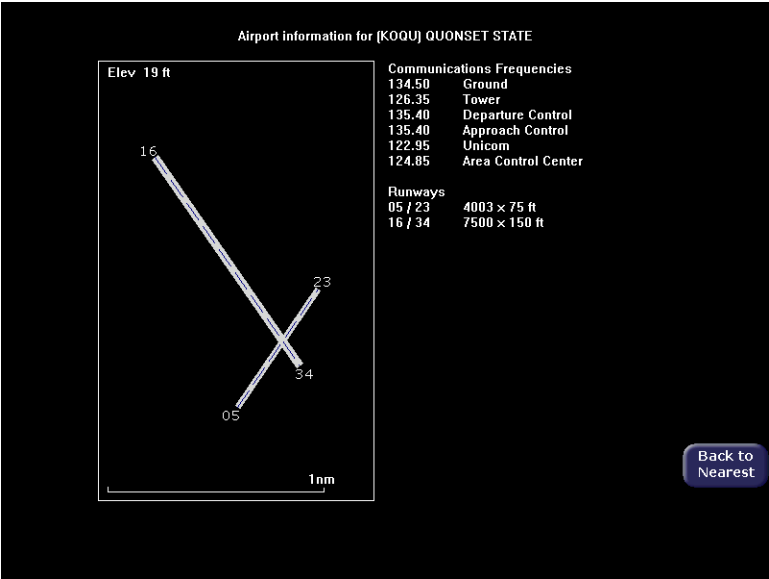

Figure 8.2 Airport Information Page
- 3) **Airport Info**—Provides quick access to airport information for the airport highlighted. *Airport Info* only appears when viewing the Airports Nearest to Position and Airports Nearest to Destination. Airport Info displays a page similar to Figure 8.2.
- 5) **FILTER**—Press to see all airport types (SHOW ALL) or only the airport types as defined on the Airport Filter Page (ON) (see Section 9.2, "Airport Filter Setup Page" on page 77). *Filter* is only visible on the Nearest Airport Pages.